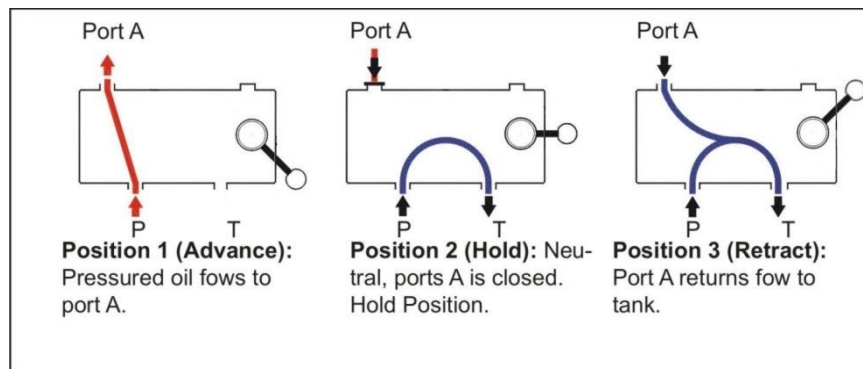

Figure 1 – PEM3023 – 3 Way / Position Valve
- 5.2.1 **Advance** - Move the lever to Position 1 (Figure 1) to cause pressurised oil to flow to Port A. Maintain or shift the control valve position until the desired pressure, load or position is reached.
- 5.2.2 **Hold** – Move the lever to position 2 (Figure 1) to close Port A. This is a neutral position.
- 5.2.3 **Retract** – Move the lever to position 3 (Figure 1) to cause fluid to return from Port A back to the tank (reservoir).